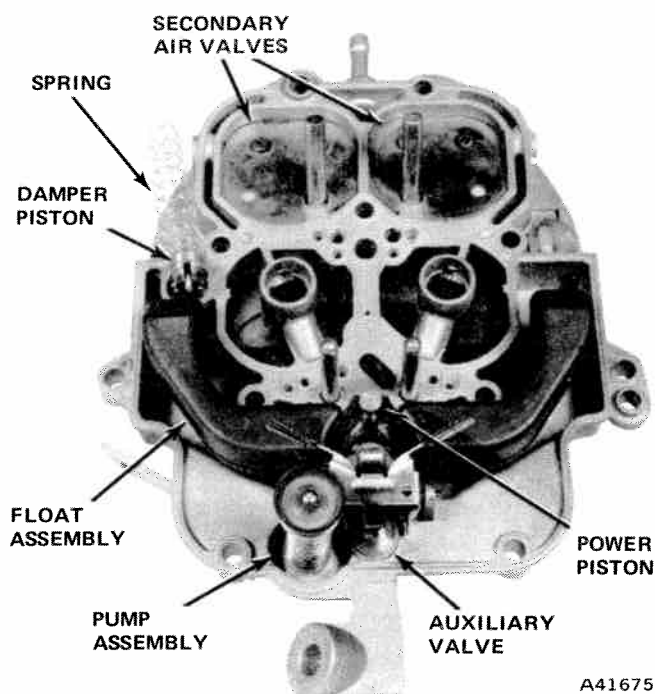

Fig. 4-66 Air Horn - Bottom View
(6) Lift air horn off main body.
(7) Pull float pivot pin and remove float assembly.
(8) Remove auxiliary fuel inlet valve with Tool J-10185 and fuel inlet needle seat with a 1/2-12 point socket (fig. 4-66).